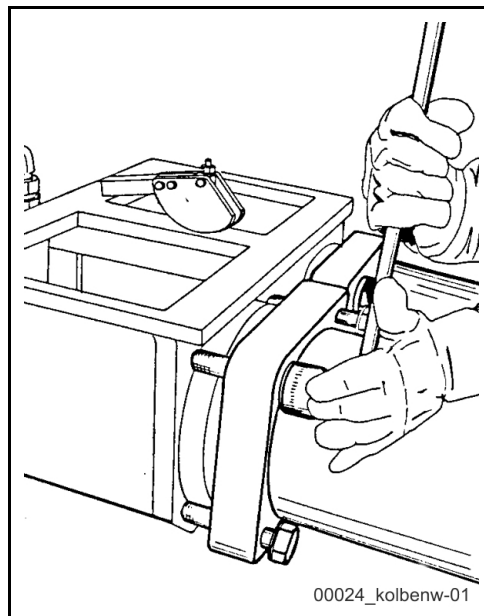

Fig. 194
- Tighten loose fastening screws crosswise in three steps with a torque wrench (**Fig. 194**).